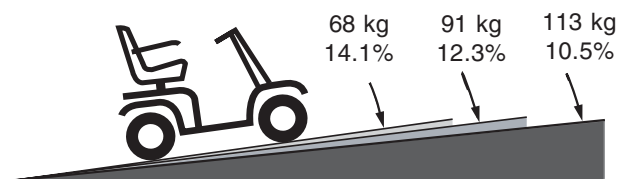

Figure 1. Maximum Recommended Incline Angles
Other inclines may be natural or, if man-made, not designed specifically for scooters. Figures 1 and 1A illustrate your scooter's stability and its ability to climb grades under various weight loads and under controlled testing conditions.
**WARNING! Any attempt to climb or descend slopes steeper than that shown in figures 1 and 1A may put your scooter in an unstable position and cause it to tip, resulting in personal injury.**